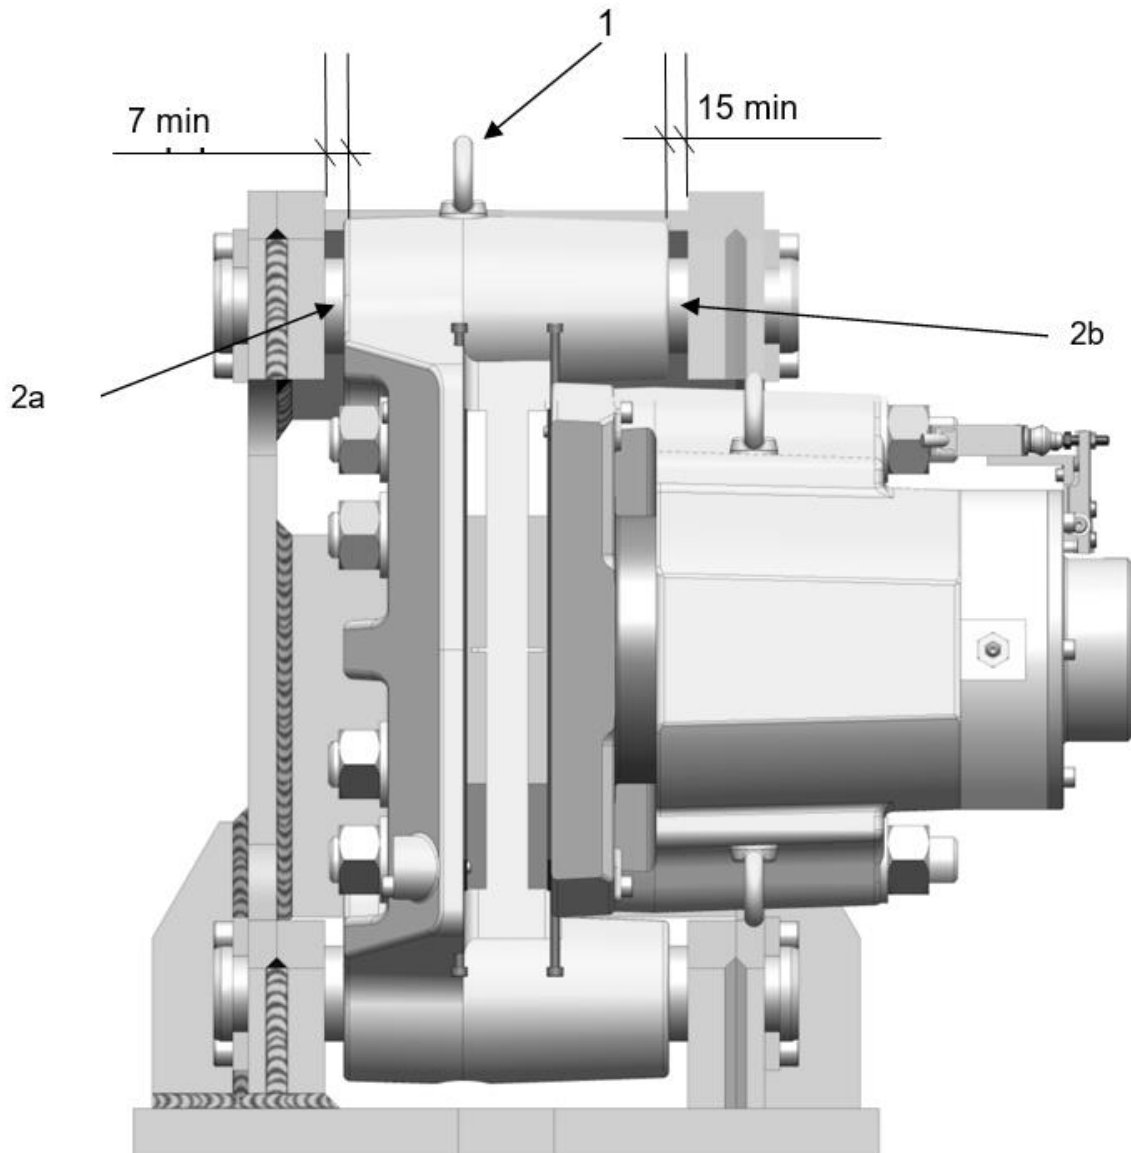

Fig. 2.3
Put the assembly in position on the disc, raising it with lifting ring 1 Fig. 2.3.
2. Brake HS 145 FHM-270 H check the disc position 7mm mini fixed pad side 2a; 15mm mini from the other side 2b Fig. 2.3.
For other positions, the piston heads must be oriented: Bleed screw 11271-17 on top Fig. 2.3 and connecting plug on bottom, in a vertical plan $\pm 30^\circ$. For more information, please contact RINGSPANN.